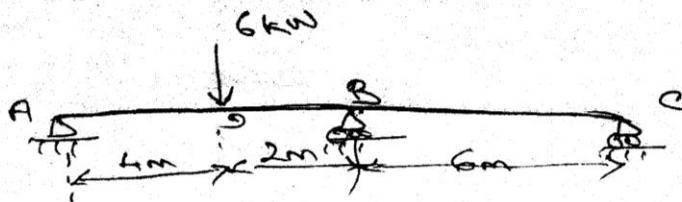

Figure-2
2. Determine the reaction components in the continuous beam shown in figure-2 by consistent deformation method. The flexural rigidity is constant throughout.